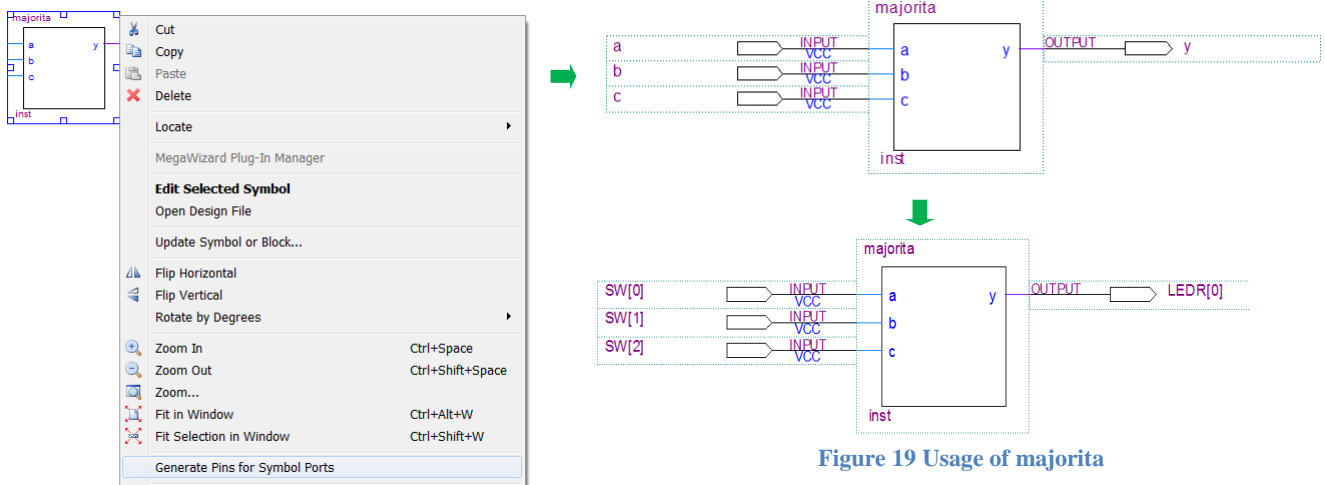

Figure 19 Usage of majorita
*Note: Using a symbolic editor is easy, but laborious. In VHDL, we can write Figure 19 by port map introduced in chapter 6, by the following way:*